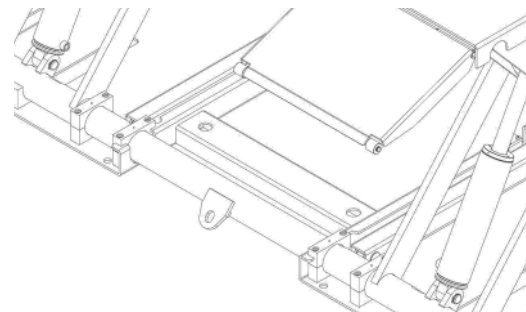

Fig. 16
- Attach the hook placed on the carriage to the hole placed on the front beam as shown in the figure 16.